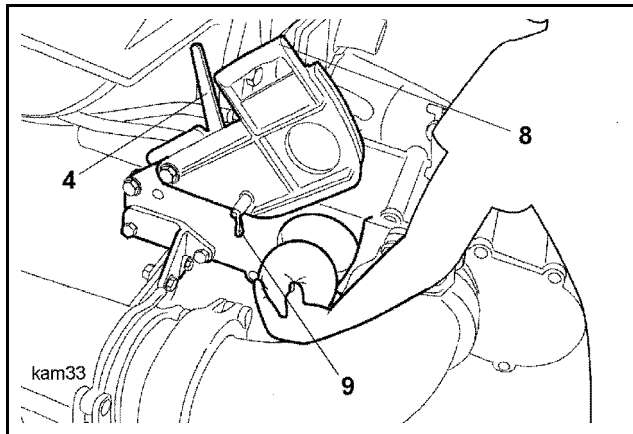

Fig. 464
- Push a damp, hard cleaning ball into the chamber (**Fig. 464**).
- Release the toggle (9) (**Fig. 464**) again so that the flap (8) can be closed.
- Close the flap (8).